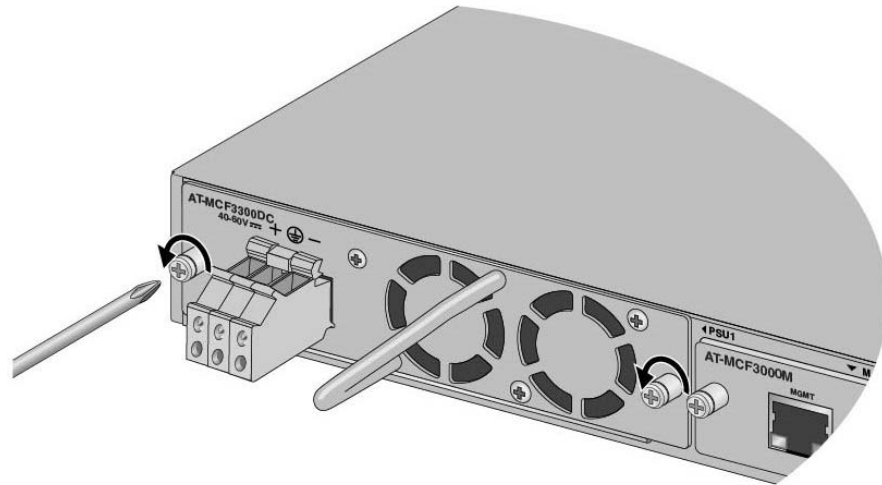

Figure 74. Loosening the Two Captive Screws on the MCF3300DC Power Supply
5. Using a cross-head screwdriver, loosen the two captive screws on the power supply. Refer to Figure 74.